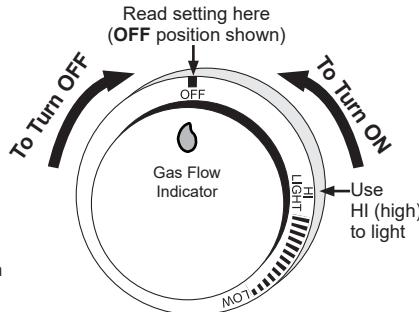

Fig. 37-1 Control knob
For your convenience and safety, when the control knob is turned to the on position, the gas flow indicator will change from blue to red. (Red indicates gas flow.) See Fig. 37-1.
4. Depress the desired control knob **for 5 seconds**. Ensure the igniter is glowing (inside of lighting tube), then, while pressing turn the knob counterclockwise to the **HI LIGHT** position (Fig. 37-1). Once the burner lights, release the knob.